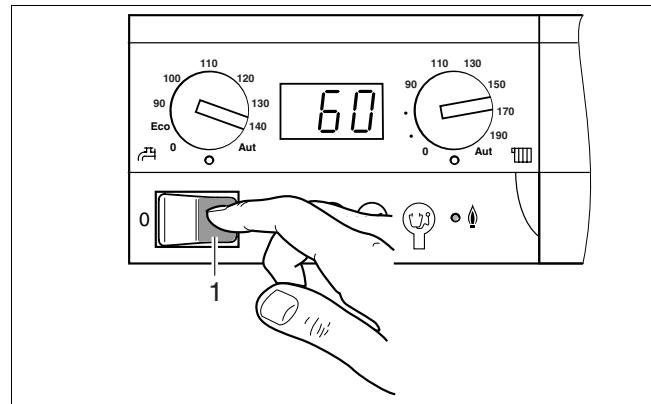

fig. 21
- Wait five (5) minutes to clear out any gas. Then smell for gas, including near the floor. If you smell gas, STOP! Follow "B" in the safety information on page 14. If you do not smell gas, go to the next step.
- Switch on the heating system using the main switch (fig. 21, pos. 1).